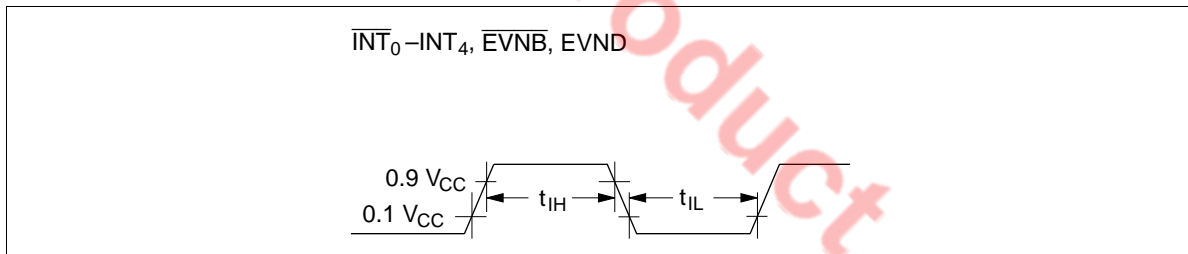

Figure 101 Interrupt Timing
- Refer to figure 101. The t_{cyc} unit applies when the MCU is in standby or active mode. The t_{subcyc} unit applies when the MCU is in watch or subactive mode.